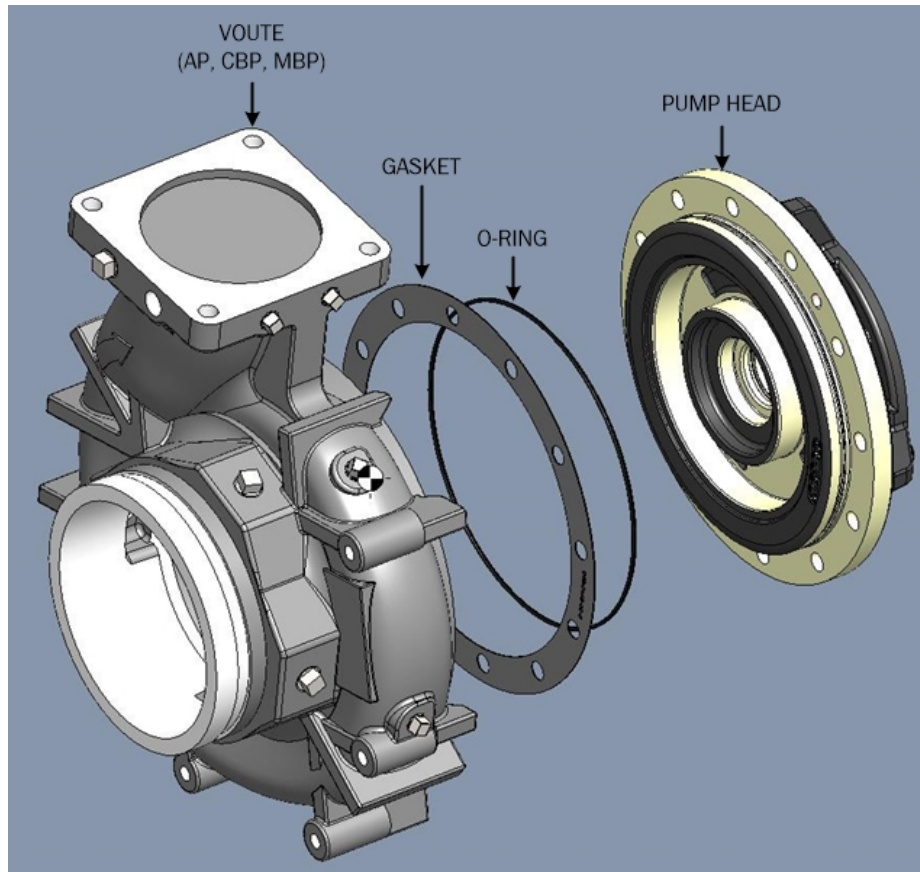
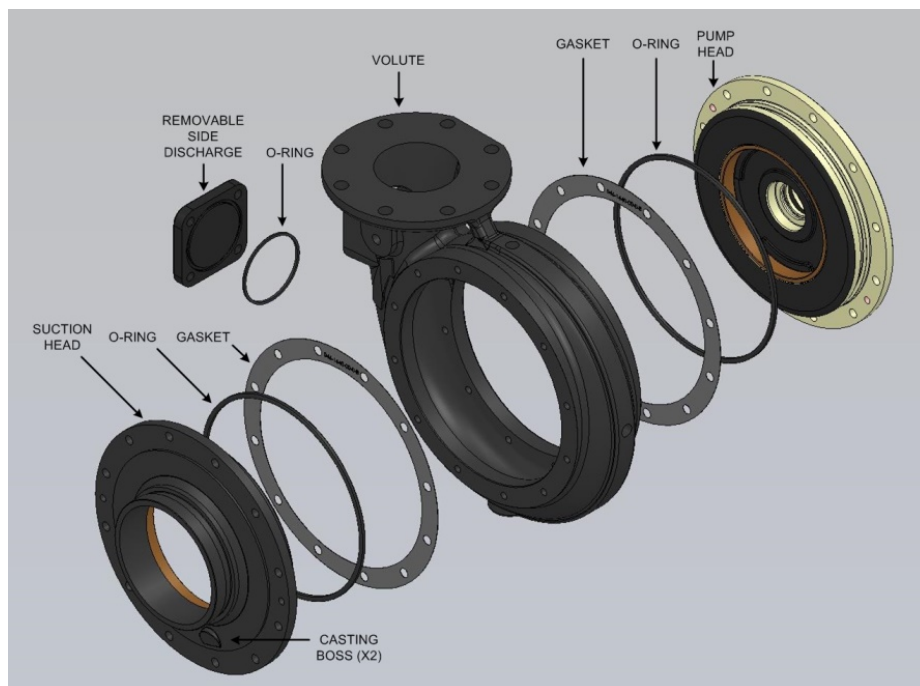

Figure 19. One-Piece Volute (AP, CBP, MBP)
Figure 20. Three-Piece Volute (RSD)
- B. Disassemble/remove all items required to access pump and gearbox. See Figure 19.
The Hale Flex Series single stage booster pumps design separates the four pumps into two groups based on the volute. The first group (the AP, CBP, and MBP) utilizes a one-piece volute (see Figure 19) while the second (the RSD) utilizes a three-piece volute (see Figure 20). This makes the RSD pump disassembly unique among the Hale booster pumps. The RSD three-piece volute consists of the suction head, the body (volute), and the pump head. Additionally, the pump is unique in that the volute provides a side discharge flange to support ancillary equipment (typically a TRV).
Unless match marking differs, place the two (2) casting bosses at the 6 o'clock position on the volute (see Figure 20) regardless of volute orientation.